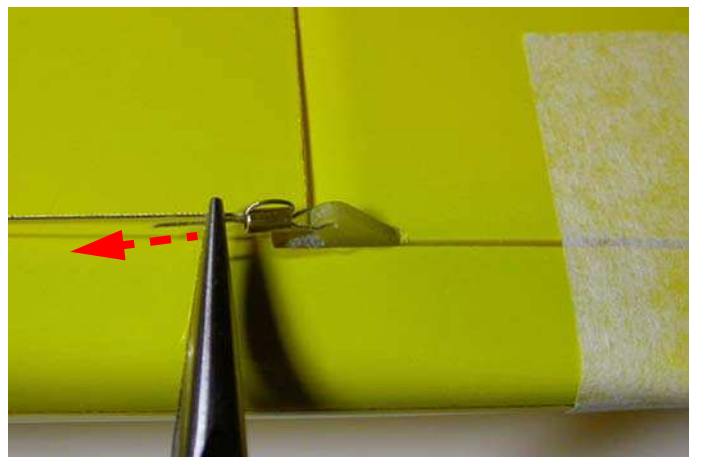

Fig.102: Pull the cable in order to close the ring.
- pull the end of the cable up to close the ring (see figure 102);